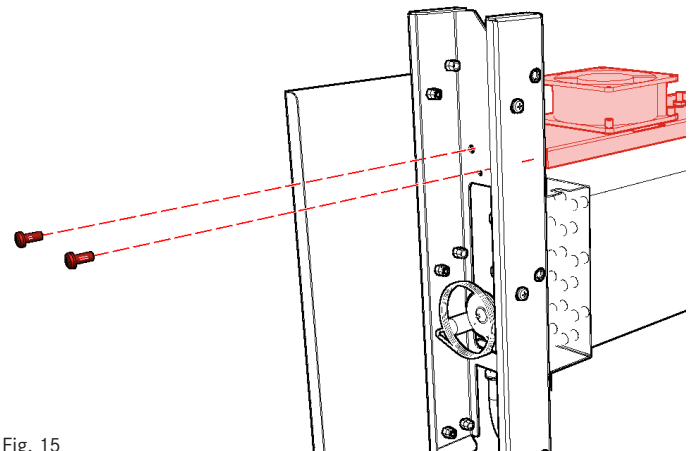

Fig. 15
3. Remove two (2) M5 × 12 screws from EACH end of evaporator module, fastening evaporator fan assembly to module (Fig. 15). Lift fan assembly away from evaporator to remove.